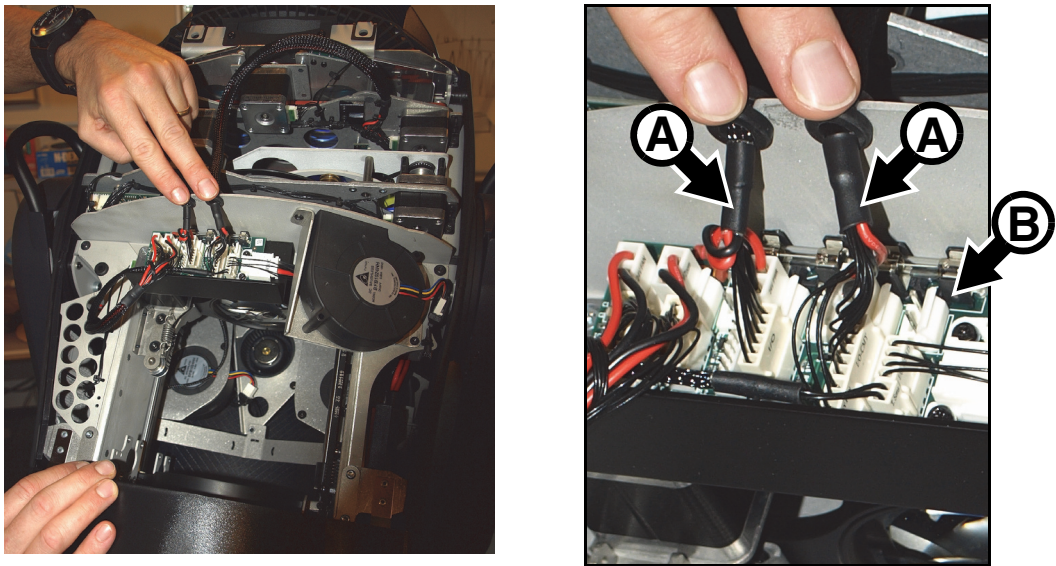

Figure 20: Effects module connectors
4. See Figure 20. Lift the two effect module wiresets **A** out of their cutouts in the head chassis. Note the positions of the three color mixing connectors (DC = PL 14, Fan = PL4, I/O = PL19) and two internal barndoors connectors (DC = PL15, I/O = PL5) on the PCB **B** in the head, then unplug the connectors.